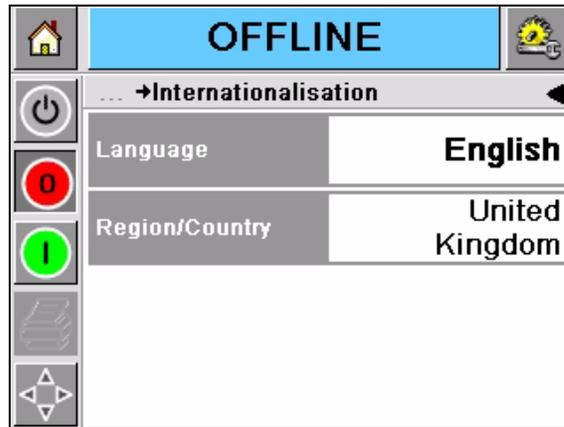

Figure 5-29: Internationalisation Page
- 1 Navigate to *Tools > Setup > Control > Internationalisation* and the *Internationalisation* page appears (Figure 5-29 on page 5-24).
- 4 Select the *Region/Country* icon to select the region or the country (Figure 5-29).